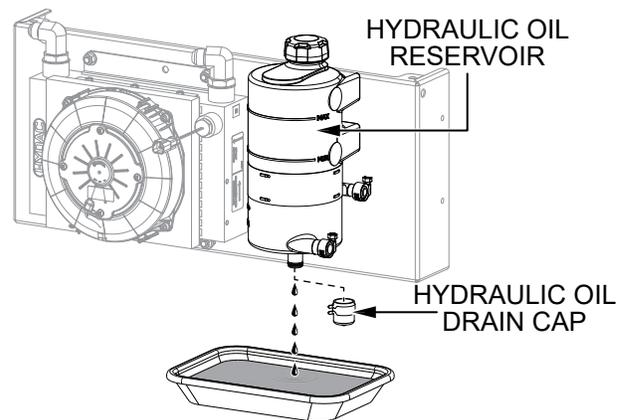

Figure 44. Draining The Hydraulic Oil
1. Place an appropriate container beneath the **hydraulic oil reservoir** (Figure 44) to catch the hydraulic oil as it drains.
2. Remove the **hydraulic oil drain cap** (Figure 44) and allow the hydraulic oil to drain completely from the reservoir.